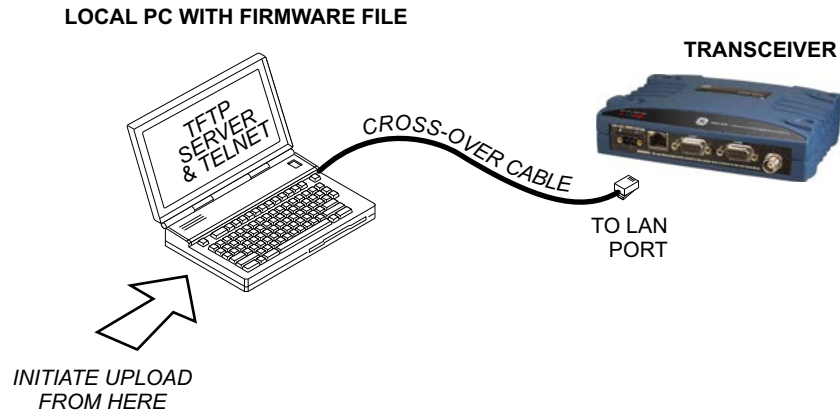
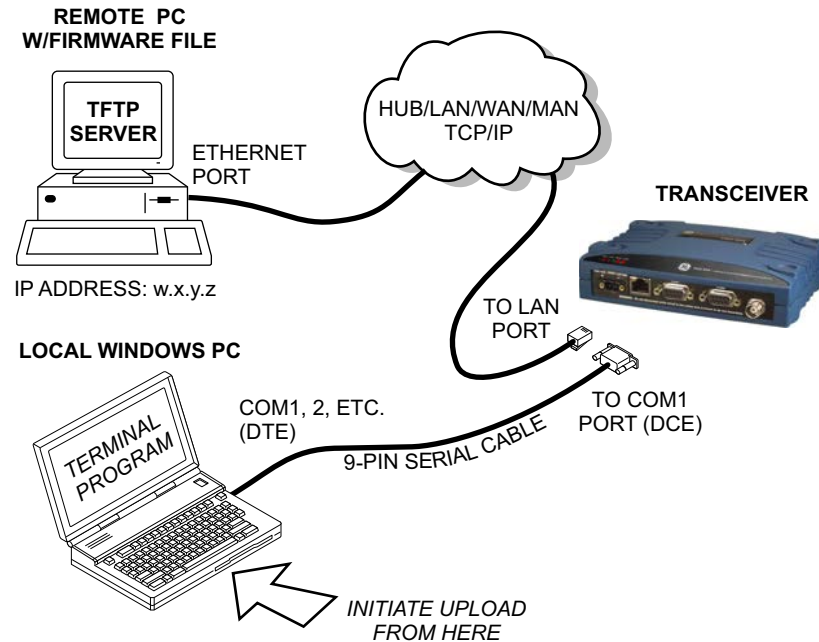

Figure 68. Firmware Upgrade Setup—Option 1
Figure 69. Firmware Upgrade Setup—Option 2
There are several alternatives to connecting the transceiver for firmware upgrade. Figure 68 and Figure 69 show two variations. It is essential that all equipment be on the same subnet.
1. Connect an Ethernet cable between the radio's LAN port and the PC (refer to Figure 68 or Figure 69, as applicable).